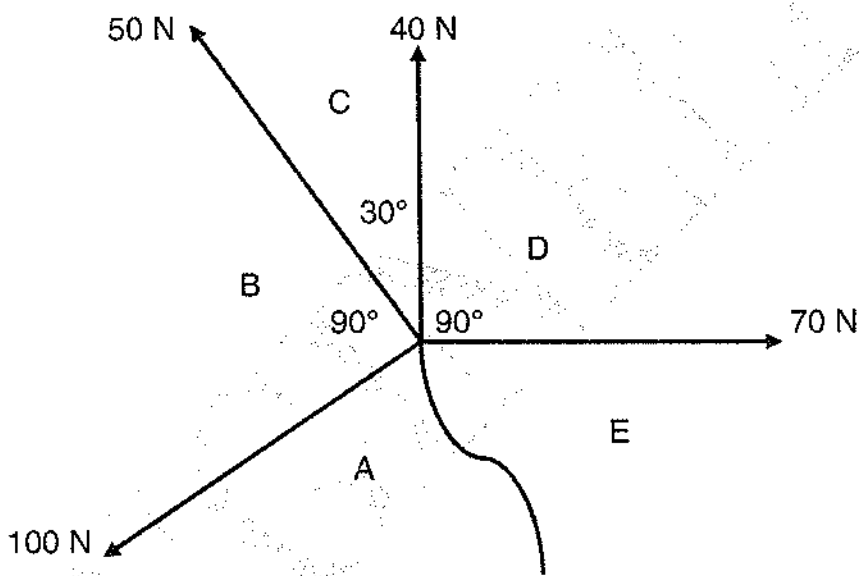

FIGURE 3
- 6.2 FIGURE 3, ADDENDUM A (attached) shows four forces acting on a pin.
- Determine graphically and clearly show the magnitude and direction of the equilibrant and also the magnitude of the horizontal and vertical components of the equilibrant. (12)